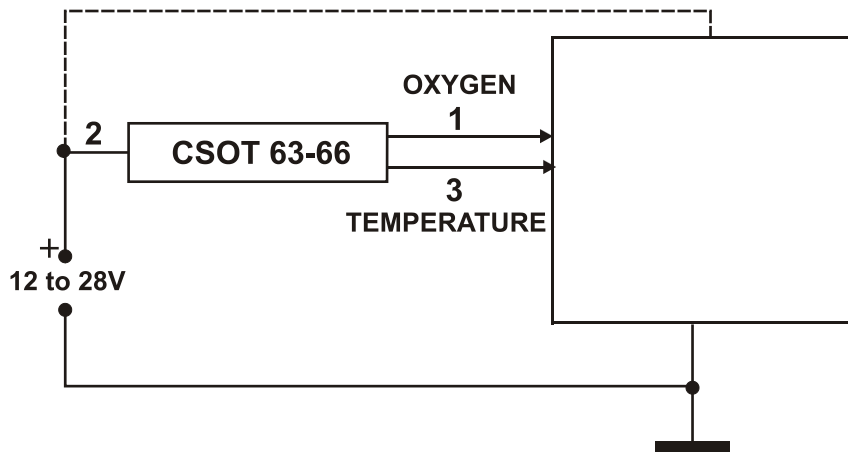

Fig. 2 Sensor connection to external device
1. Unscrew the spherical cover of membrane head (5) firstly.
2. Unscrew the old membrane head (4) - (normal nuts against the clockwise direction) from the sensor body (1).
4. We connect sensor according to fig. 2. or fig 3. (MKT 66).